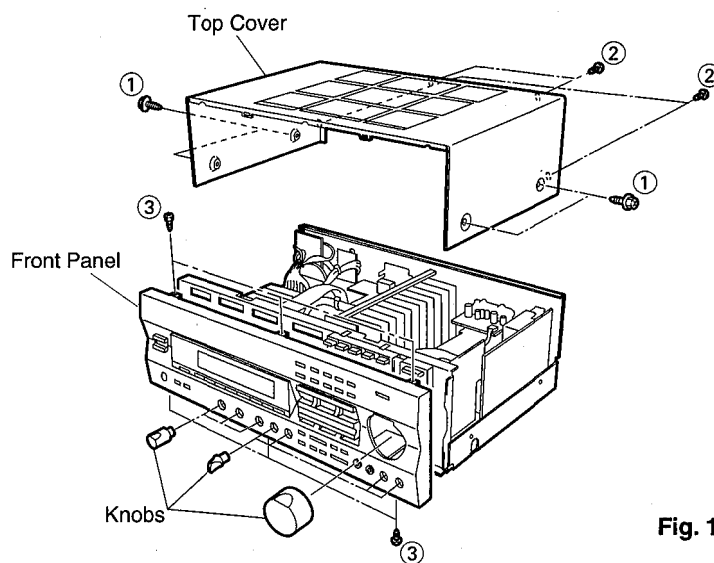

Fig. 1
Remove 4 screws (①) and 4 screws (②) in Fig. 1.
- b. Remove 6 screws (③) in Fig. 1.